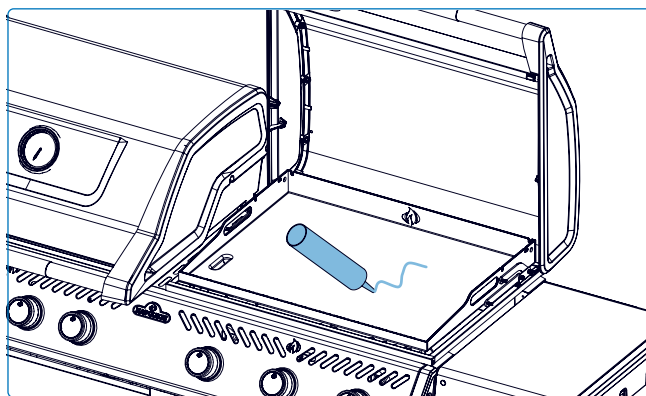

Fig. 11
5. Add 2–3 tablespoons of a neutral, high smoke-point oil to the center of the griddle **(Fig. 11).**